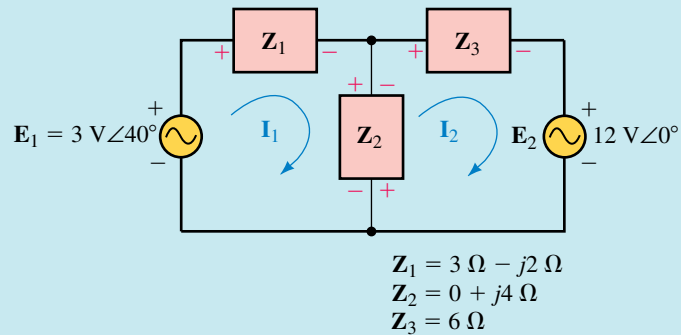

FIGURE 19-17
Steps 2 and 3: After simplifying the impedances and assigning clockwise loop currents, we have the circuit of Figure 19-17.
Step 4: The loop equations for the circuit of Figure 19-17 are as follows: